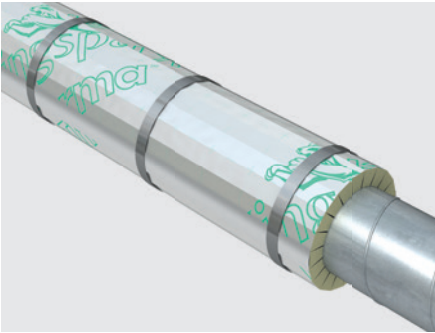

Figure 27: Banding can be used as additional fixings
- The banding must be no less than 15 mm wide and should be applied circumferentially at least three per section of insulation or at maximum 400 mm centres as shown in Figure 27.